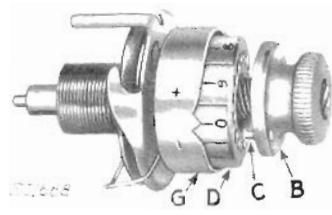

Fig. 44
Turn the tension regulating thumb nut (B, Fig. 44) until zero on the tension index flange (D) is opposite the pointer on the tension indicator (G);